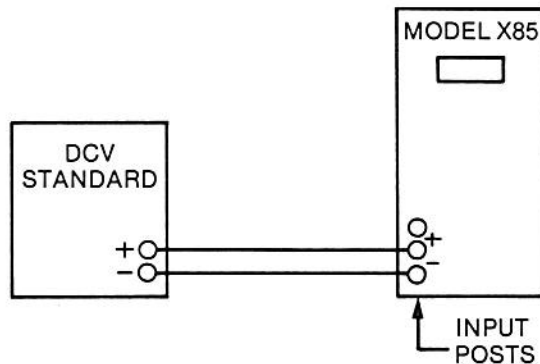

FIGURE 5-1
5.3.2.1 Connect the X85 calibrator and the DC voltage standard as shown in Figure 5.1.